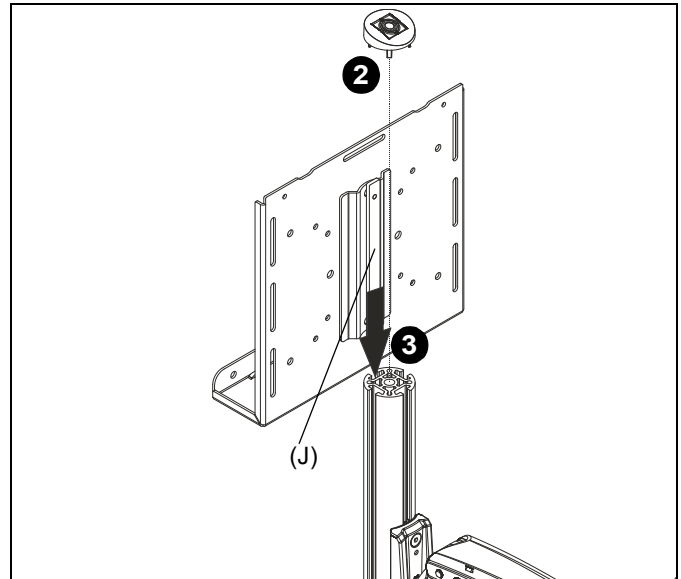

Figure 3
2. Remove column cap from Kontour column. (See Figure 3)
3. Slide column guide (J) into column channel. (See Figure 3)